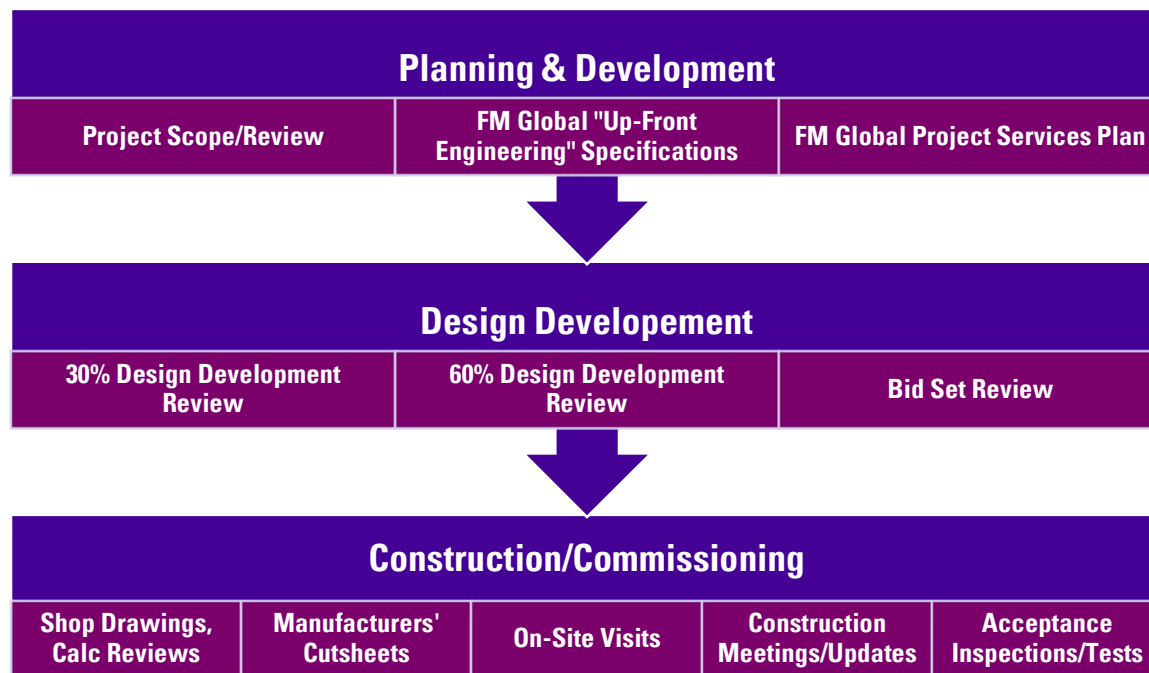

Figure 1. Project Milestone Flow Diagram
- Figure 1. Project Milestone Flow Diagram..... 2*